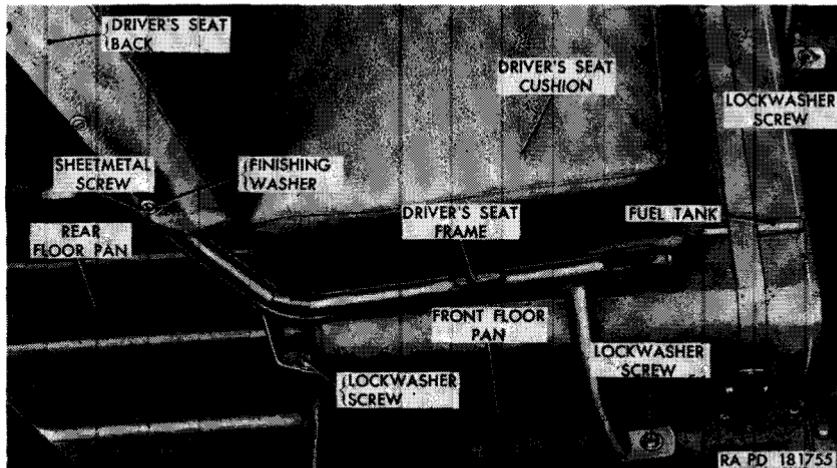

Figure 133. Driver's seat
a. *Driver's Seat* (fig. 133).
- (1) *Removal.* Remove the four lockwasher screws securing the seat frame to the front and rear floor pans and wheel panel and lift seat out of vehicle.
d. Driver's Seat Cushion (fig. 133).
- (2) *Removal.* Remove driver's seat (*a(1)* above). Remove the two lockwasher screws securing the seat cushion to the seat frame. Pull out on seat cushion to disengage clips at rear of cushion from seat frame and remove cushion. Remove the 12 sheet metal screws and finishing washers securing the seat back to the seat frame and lift seat back off frame.